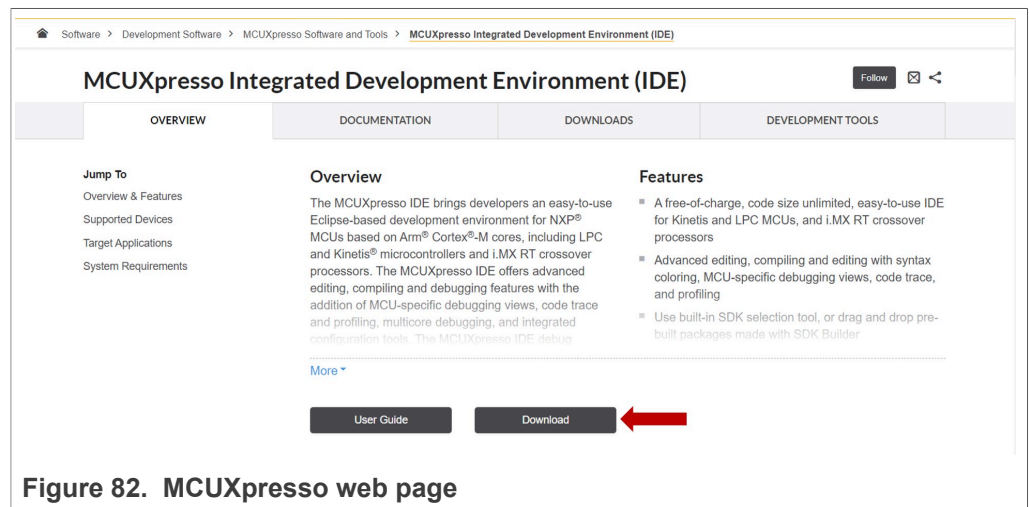

Figure 82. MCUXpresso web page
1. Go to MCUXpresso and click the download button as indicated in Figure 82: